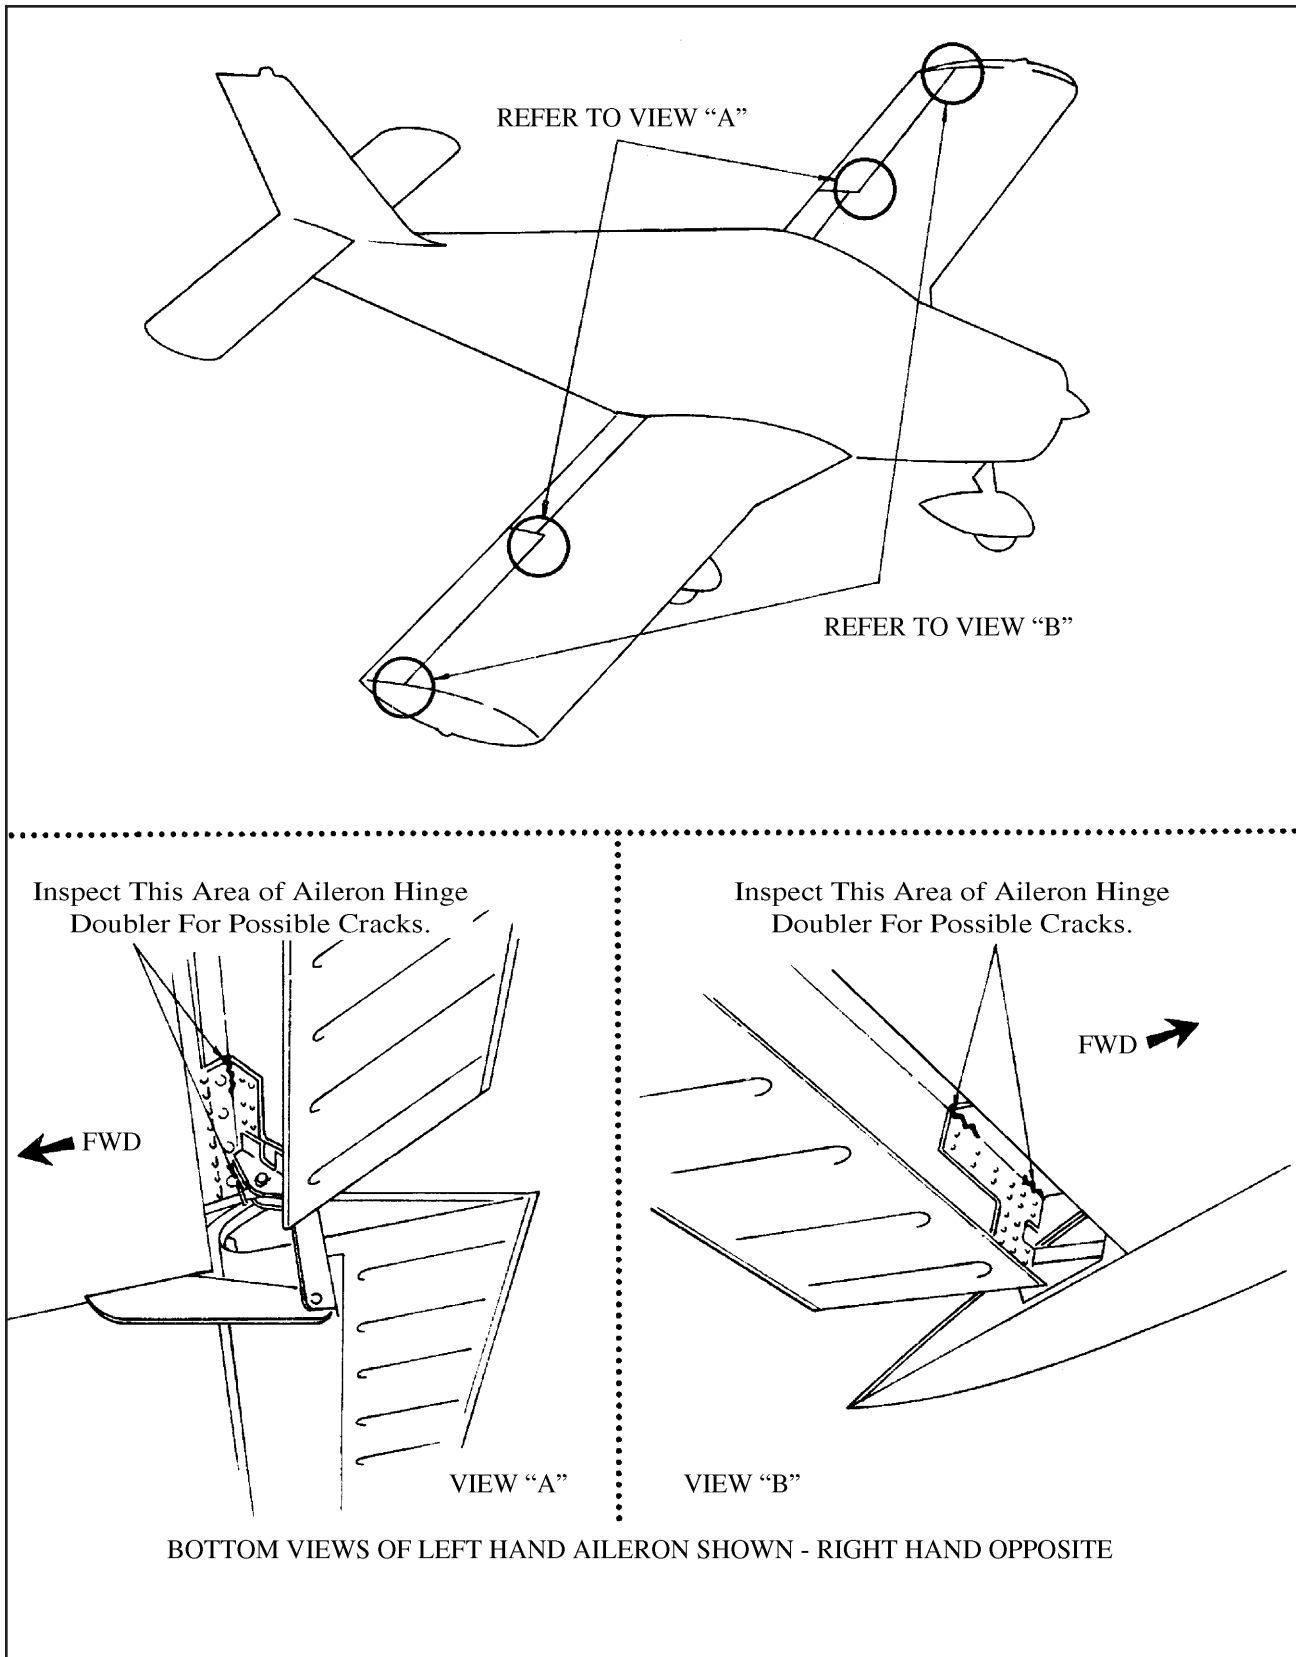

Figure 3-21
- (a) Inspect the aileron hinge doublers inboard (next to control rod) and outboard (next to balance weight) to determine if cracks exist in the bend radii. (See Figure 3-21).